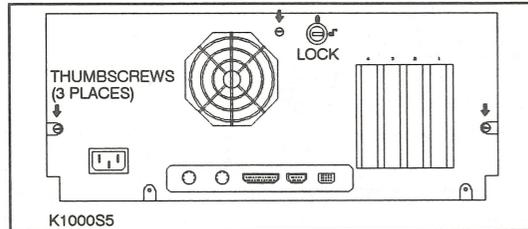

Figure 6: Removing Rear Screws
3. Disconnect the keyboard cable at the rear of the system unit (Figure 6).
3. Place the add-on memory module in location A or location B. Figure 6 shows Module A installation. Installation in other location B is the same. Use the following guidelines to select